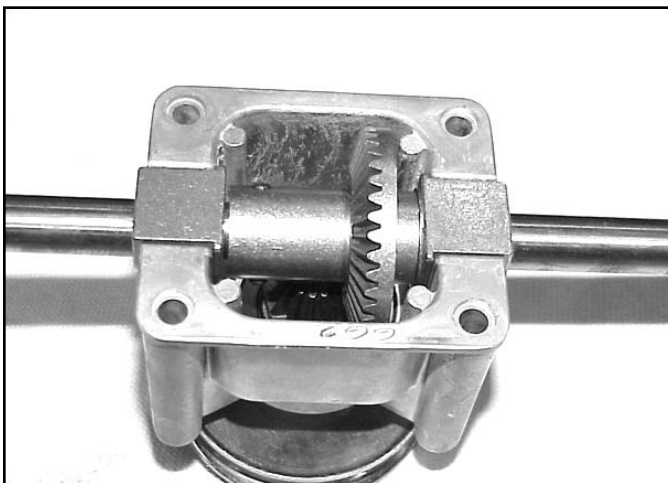

Fig 050
1. Remove the 4 screws holding the cover onto the transmission. The axle, bearings, and bevel gear can be lifted out (Fig. 050).